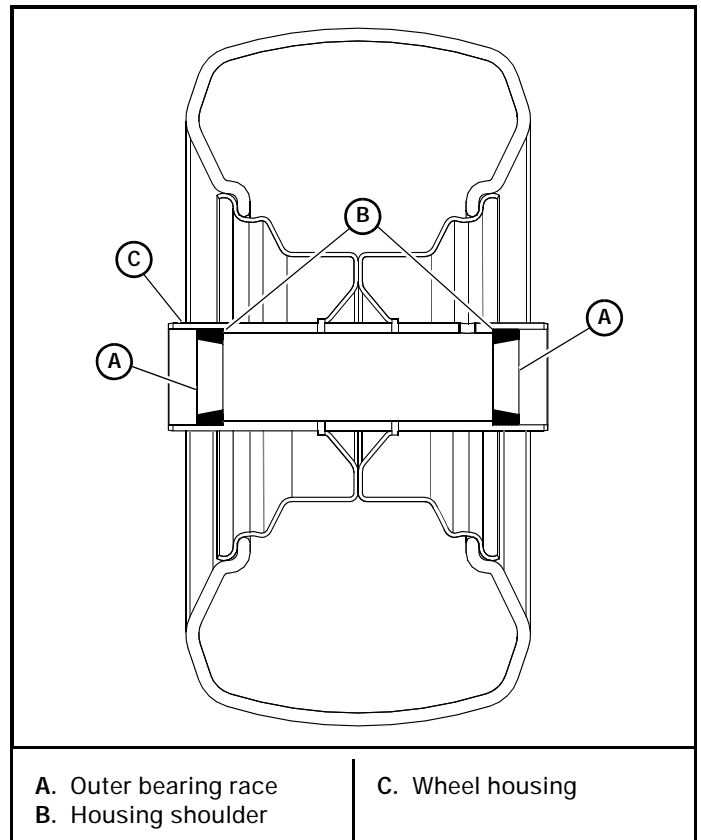

Figure 4-42
1. Press the new outer bearing races into the wheel housing until they are fully seated against the housing shoulder. Figure 4-42